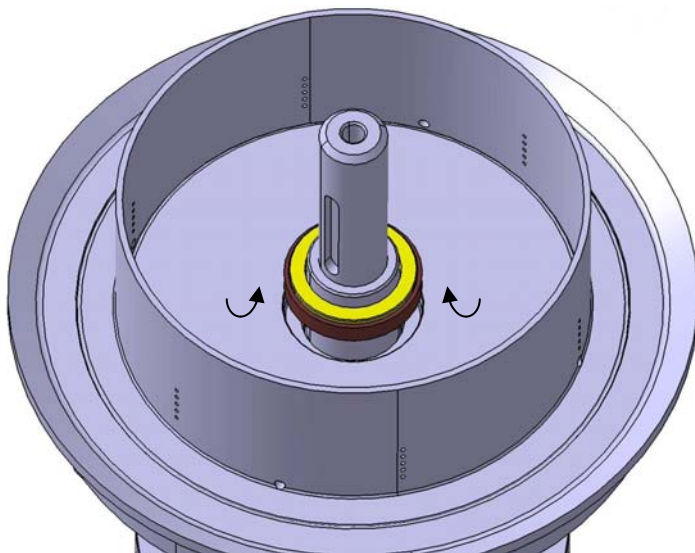

Figure 8-6 Static part of mechanical shaft seal.
- It should now also be possible to remove the static part of the mechanical shaft seal using a small screwdriver. See Figure 8-6